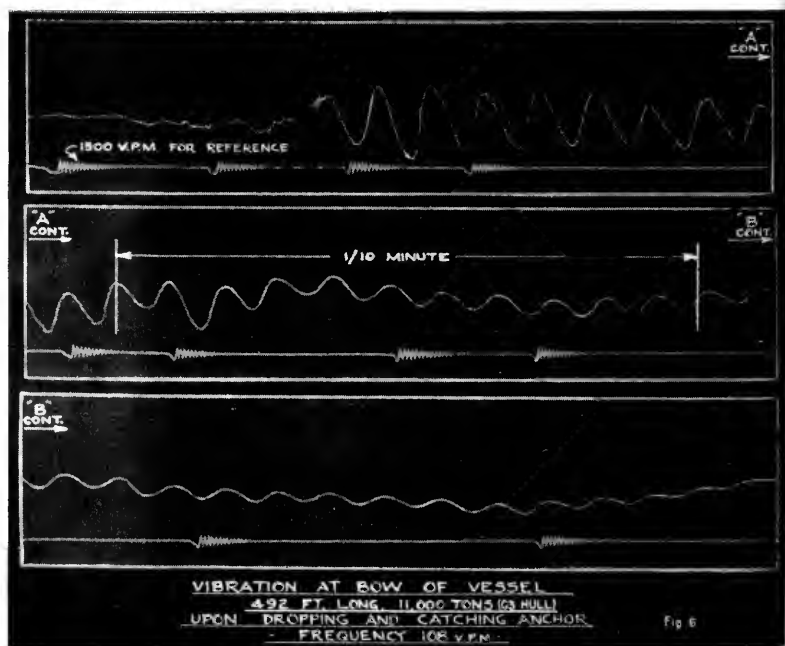

Fig. 6
(1) Experimental determinations of natural frequencies of already built ships can be carried out by means of recording instruments, usually of the seismic type. Various forms of mechanical agitators, including deliberate unbalancing of the ship's own machinery, may be used to excite the different modes. The nearly vertical firing of a gun near the bow or the stern will excite the fundamental vertical transverse mode and possibly the second and third as well. The horizontal, athwartship firing of the same gun will excite the torsional and horizontal transverse modes.
(2) Another way of exciting natural vertical vibrations is to drop anchor and check its fall rather suddenly before it strikes bottom. Figure 6 shows a record of a 492 ft., 11,000 ton ship of the cargo or passenger type. The fundamental vibration is 108 cycles per minute.